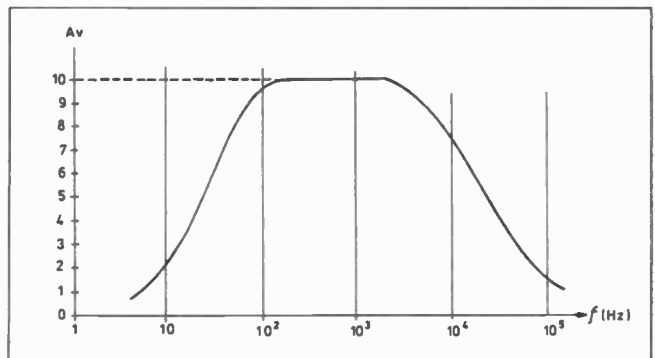

Fig. 7.7. What is the bandwidth of this amplifier?
- Fig. 7.7 shows an idealized response curve of an amplifier. What (approximately) is the bandwidth of this amplifier? (Note that the frequency scale is divided logarithmically).